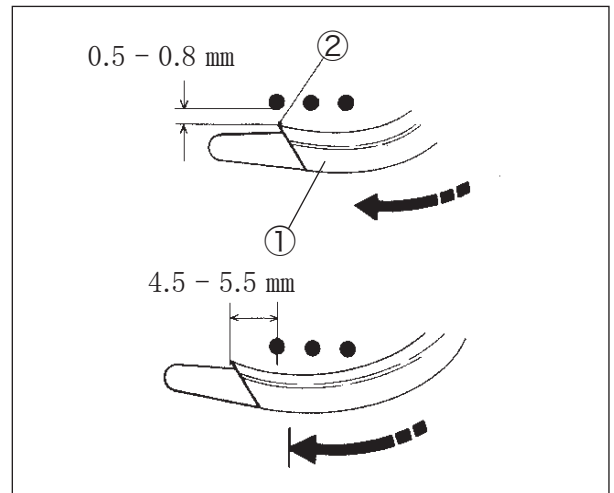

Fig. 6-8
- (2) Make the clearance between the left needle and the hook ② of the spreader ① to 0.5 - 0.8 mm. (Fig. 6-8)
- (3) Make the clearance between the center of the left needle and the hook ② to 4.5 - 5.5 mm when the spreader ① is at the extreme left. Then tighten the screw ④ securely. (Figs. 6-8 and 6-10)